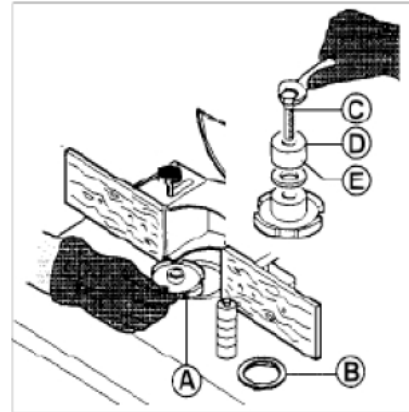

Fig. 28: Mounting the tools
Step 2: Before mounting tool (Pos. A, Fig. 28) make sure that spacing rings (Pos. E, Fig. 28) are clean and not damaged.
Step 3: The moulding tool is fixed and clamped by bolt (nut) (Pos. C, Fig. 28), through spindle ring (Pos. D, Fig. 28) and spacing rings (Pos. E, Fig. 28) on the moulding spindle!
Step 4: Adjust the hole in the table according to the diameter of moulding tool (Pos. A, Fig. 28) by table rings (Pos. B, Fig. 28).